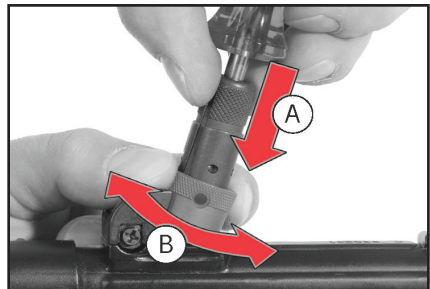

Fig. 20 – Adjust rear sight
2. Insert the Phillips-head screwdriver into the elevation adjustment tool module, press downwards and hold it (Fig. 20-A).
3. Turn rear sight drum counter-clockwise (Fig. 20-B). Turning by one, 360-degree turn changes the point of impact by approximately 2 inches at 25 meters (27.34 yards or 82 feet) range.
3. Turn rear sight drum clockwise (Fig. 20-B). Turning by one, 360-degree turn changes the point of impact by approximately 2 inches at 25 meters (27.34 yards or 82 feet) range.